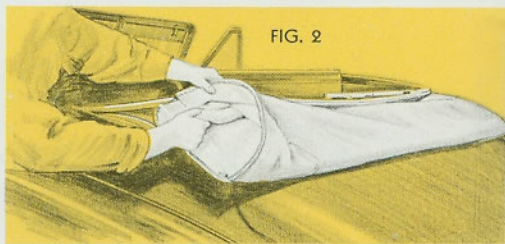

FIG. 2
4. After top is lowered, raise it slightly by hand and pull the top material and padding out from under the roof bow so that it lays in position shown. Fig. 2.